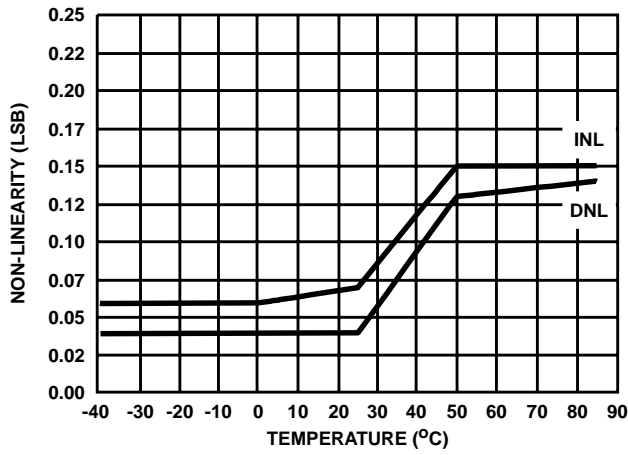

FIGURE 6. NON-LINEARITY vs TEMPERATURE
- The voltages listed are the ideal centers of each output code shown as a function of its associated reference voltage See Ideal Transfer Curve Figure 6. The output code should exist for an input equal to the ideal center voltage $\pm 1/2$ of the step size.